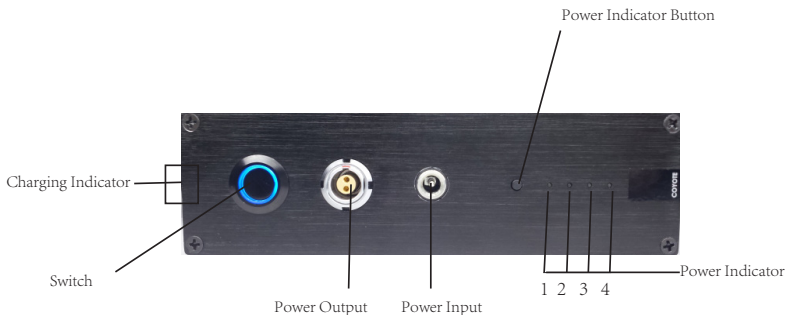

Figure 1: batt3 battery pack
- 4) Power Indicator: Press the power indicator button next to the 4 indicating lights to check the remaining capacity of the Battery Pack. NO. 1-4 stand for 25%, 50%, 75%, 100% percentage of remaining capacity. When the power indicator off, please charge the battery before using. (Figure 1)